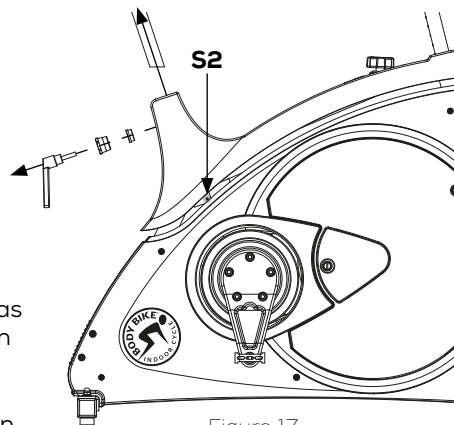

Figure 17
4) Carefully lift up the top cover as shown on figure 17. Adjust the right hand side screw marked S2 with a 2.5 mm Allen wrench. See figure 17.